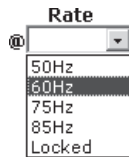

Figure 6-10 — Rate @ drop box
1. Click in the Rate field. A drop down box appears (figure 6-10).